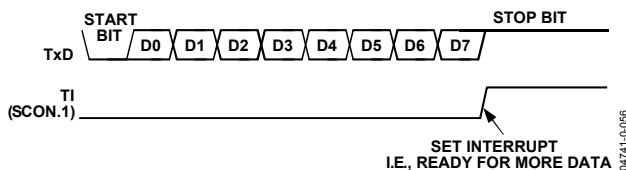

Figure 59. 8-Bit Variable Baud Rate
Transmission is initiated by writing to SBUF. The write to SBUF signal also loads a 1 (stop bit) into the 9th bit position of the transmit shift register. The data is output bit-by-bit until the stop bit appears on TxD and the transmit interrupt flag (TI) is automatically set as shown in Figure 59.